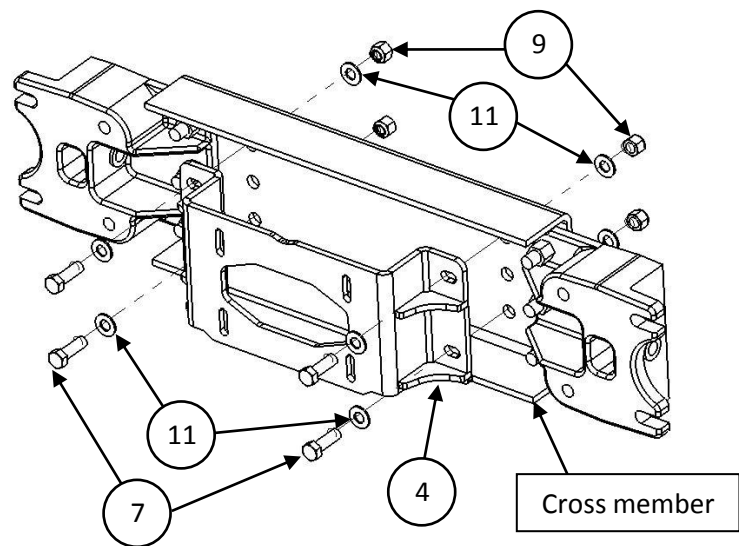

Figure 3 – Center mount installation.
3. Install center mount (Item 4) onto cross member as shown in Figure 3.